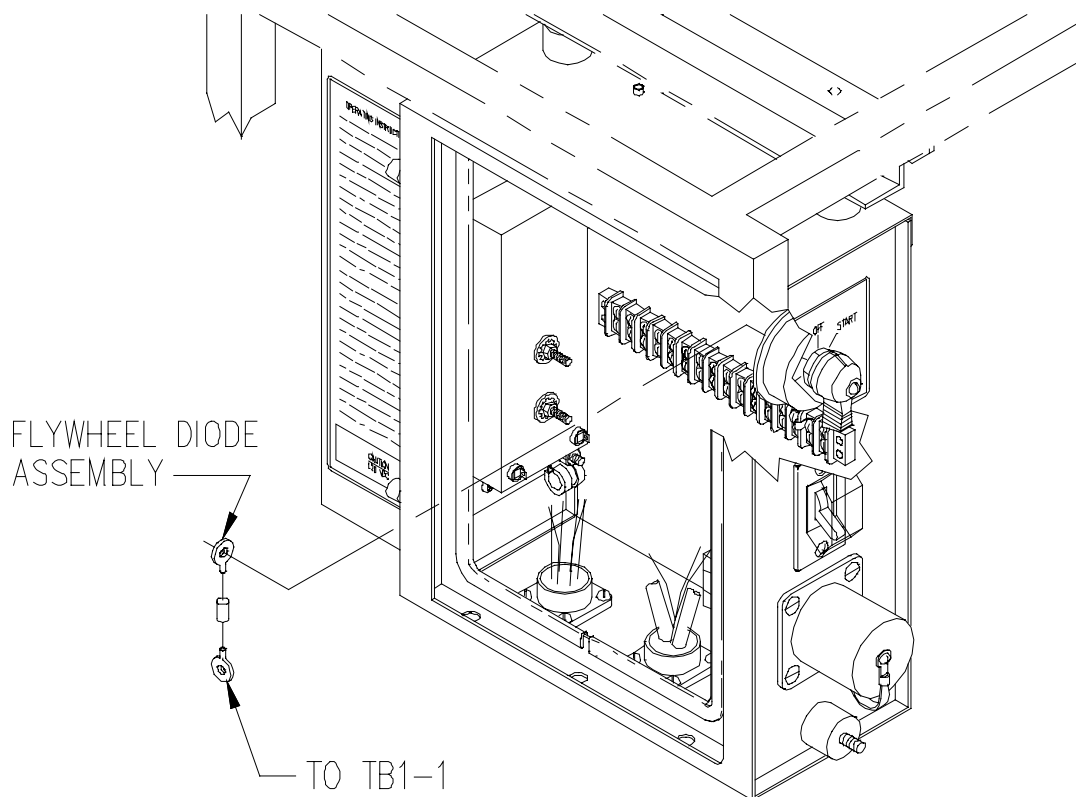

Figure 4-41. Flywheel Diode Assembly
- (1) Shut down generator set.
- (2) Release instrument panel by turning fastener, open instrument panel slowly.
- (3) Remove EMI filter, refer to paragraph 4.47.b (MEP-531A)
- (4) Tag and disconnect flywheel diode assembly (Figure 4-41) at terminal board (TB1-1) and at START-PREHEAT/PREHEAT/OFF/START rotary switch (S2-S).
- (1) Connect flywheel diode assembly (Figure 4-41) at terminal board and at START-PREHEAT/PREHEAT/OFF/START rotary switch. Remove tags.
- (2) Install EMI filter, refer to paragraph 4.47.d (MEP-531A).
- (3) Close and secure instrument panel.